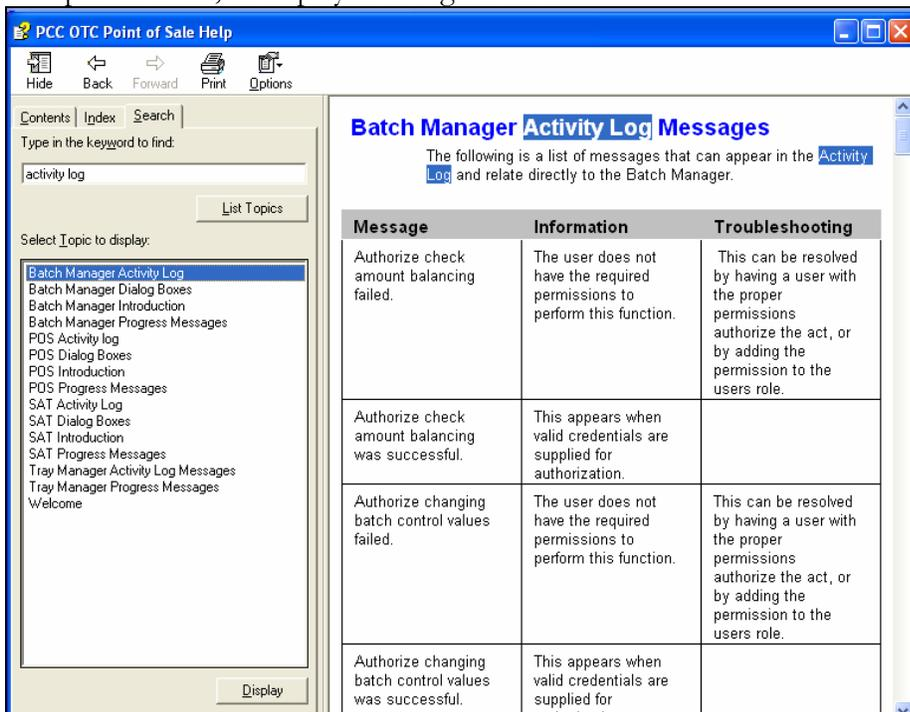

Figure 2.34
- Search – The search function allows the user to type a word or group of words to search for a specific error, as displayed in Figure 2.34.